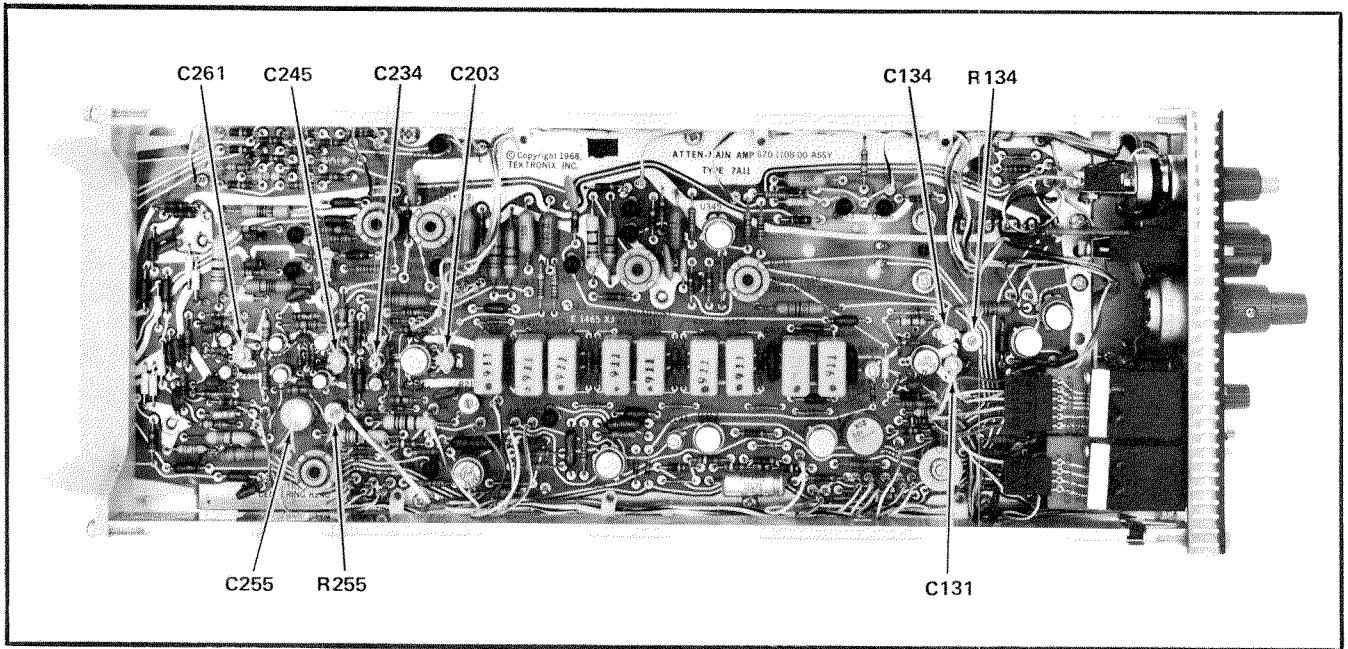

Fig. 5-12. Adjustment locations for step 12.
- (1) Within the Plug-In Extender (item 10), disconnect the bottom connector on the left and on the right side. Connect the left and right side male connector to the Channel A and B inputs of the 3S1, respectively, using 2 ns cables (item 17) and GR-to-BNC female adapters (item 19).
- (2) Connect the 7A11 to the Extender and install the Extender in the Oscilloscope vertical plug-in compartment.
- (3) Connect the 7A11 Probe through the 50 Ω Termination/Adapter and a 5X GR Attenuator to the + Output Connector of the Type 106 Square Wave Generator.
- (4) Select FULL Bandwidth at the 7A11.
- (5) Switch the 3S1 Channel A and Channel B mVolts/Div controls to 50 mV.
- (6) Adjust the Type 106 Square Wave Generator + Transition Amplitude as necessary to obtain a 5 division display on the Sampling System CRT. (7A11 at 10 mV/Div.) Use the 7A11 POSITION control to center the display.
- (7) Perform the adjustments listed in Table 5-6, obtaining an optimum square top-left corner and flat top on the waveform. Adjustment locations are shown in Fig. 5-12.
(15) RE-ADJUST—C255 and R255 (Fig. 5-12) as necessary to make the 7A11 display as nearly like the Calibration Fixture display as possible. Do not change any other transient response adjustment settings. (Re-check the step function through the Sampling System if re-adjustment is done.)